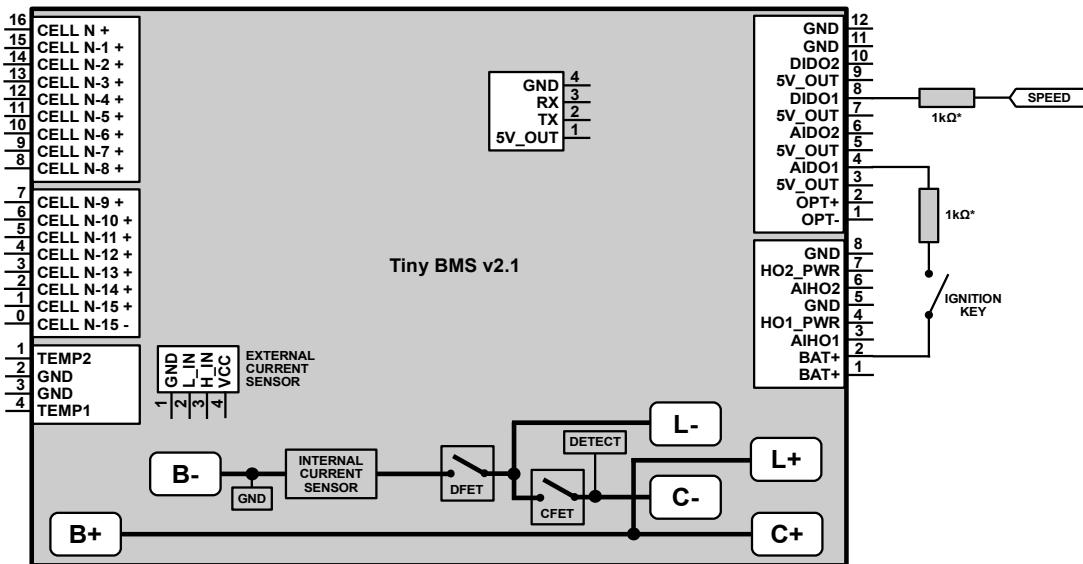

Figure 2.21: Tiny BMS Ignition feature (configured on AIDO1 pin) and Speed Sensor input (configured on DIDO1 pin) connection diagram
*Tiny BMS Ignition* feature can be used for two main reasons: to control (turn on or turn off) load output and to enter deep sleep mode to achieve the lowest *Tiny BMS* current consumption. *Ignition* software feature can be assigned to one of the available *Tiny BMS* analog (*AIDO1/2*), digital (*DIDO1/2*) or hybrid (*AIHO1/2*) external input pins, if it is not assigned to any other firmware features. *Figure 2.21* shows *Ignition* connection diagram example when *AIDO1* pin is configured to use as *Ignition* feature. When *AIDO1* is connected to *BAT+* pin (ignition key is on and a high logic level is presented on the *AIDO1* pin), *Ignition* is activated and *BMS* wakesup from sleep mode imediately and turns on the load output. Otherwise, when *AIDO1* is disconnected from *BAT+* pin (ignition key is off and a low logic level is presented on the *AIDO1* pin), *Ignition* is deactivated, *BMS* turns off load output and the *BMS* enters deep sleep mode after 10 seconds to achieve the lowest possible *Tiny BMS* current consmption. For safety reasons it is highly recomendated to use about a 1 k $\Omega$  resistor in series between configured *Ignition* pin and *BAT+* pin. How to properly configure and use *Ignition* feature and other aspects and limitations about this feature refer to *Chapter 4*.
Tiny BMS supports electric vehicle speed measurement feature, when speed sensor signal is applied to the Tiny BMS configured external input pin. Measured vehicle speed is displayed on the *Ebyke Analyzer Android* application, furthermore, BMS calculates traveled distance and estimates how many distance vehicle can travel depending on the available battery state of charge. Speed sensor input can be assigned only to BMS digital external input pins (DIDO1/2), if it is not assigned to any other firmware features. For supported DIDO1/2 signal levels refer to *Tiny BMS* datasheet. External speed sensor connection diagram are shown in the *Figure 2.21*. For safety reasons it is highly recommended to use about a  $1\text{ k}\Omega$  resistor in series between configured BMS speed sensor input pin and speed sensor signal source. How to properly configure and use *Tiny BMS* speed sensor feature refet to *Chapter 4*.